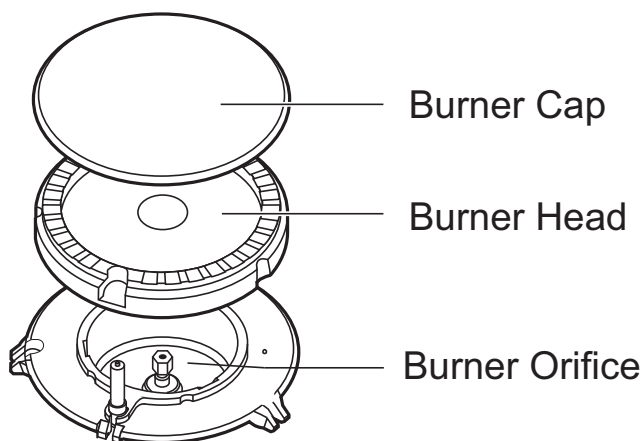

Figure 19: Cooktop cleaning
1. Remove the burner cap and burner head (see Figure 19). Clean the cap and head with hot soapy water and dry thoroughly.